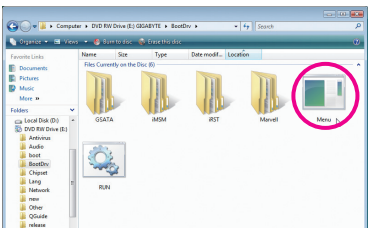
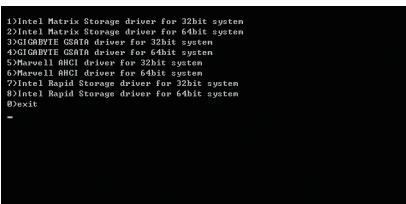

Figure 2
Figure 3
- 2: From your optical drive folder, double click the **Menu.exe** file in the **BootDrv** folder (Figure 2). A Command Prompt window will open similar to that in Figure 3.
- 3: Insert the blank formatted disk. Depending on the operating system to be installed, select the controller driver by pressing the corresponding letter from the menu and press <Enter>. For example, from the menu in Figure 3,